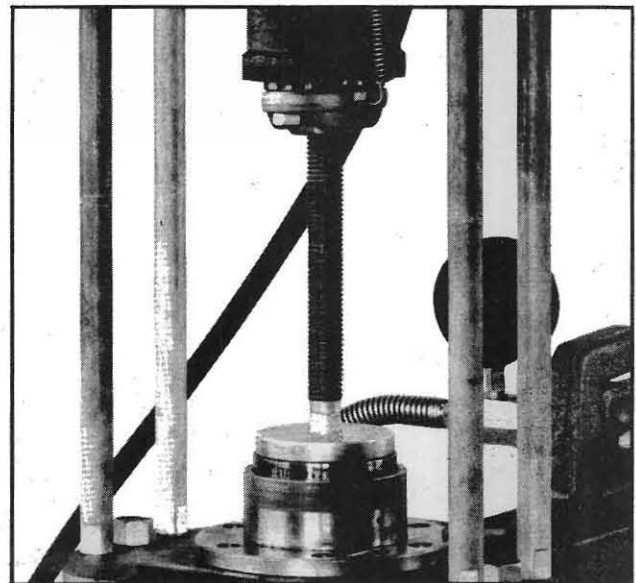

Fig. 264
3. Use the special step plate, SDT-109, to press the bearing cups into the sleeve assembly of the TO-20 and TE-20, as shown in Fig. 264.